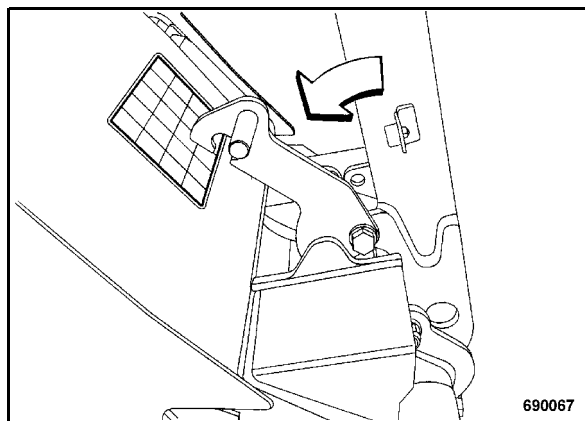

Fig. 42
- Adjust the steering rod upright and engage the locking lever (Fig. 42).